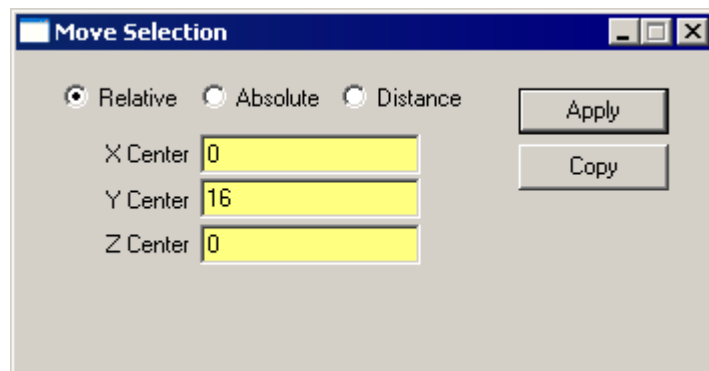

FIGURE 9.41 - Move Selection Dialog
9. Create a second lens by entering 16 for Y Center in the Move Selection Dialog. Press the *Copy* button. See Figure 9.41.